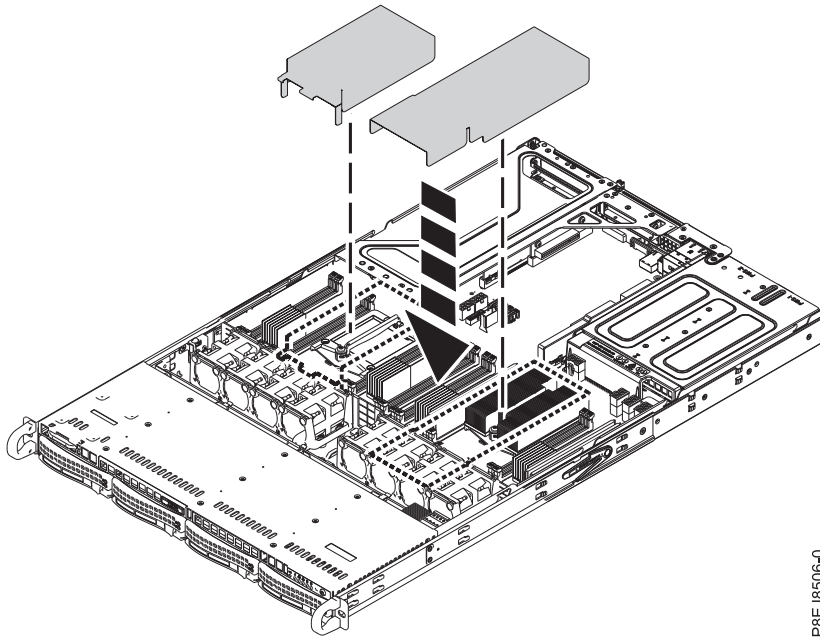

Figure 17. Installing the system processor air baffle
5. Install the system processor air baffle as shown in Figure 17. Insert the edge of the system processor air baffle into the fan support. Then, carefully press the system processor air baffle down into place.